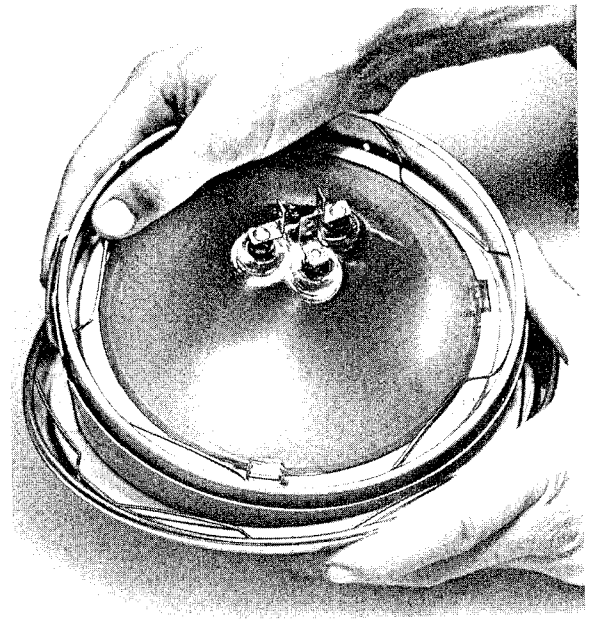

Fig. 56
3. Place the headlight unit on a paddel surface and remove the six spring clips from the inner ring (Fig. 56.).
3. Install the six retaining clips evenly spaced around the globe so that they press against the ring but do not rest against the glass (Fig. 56).